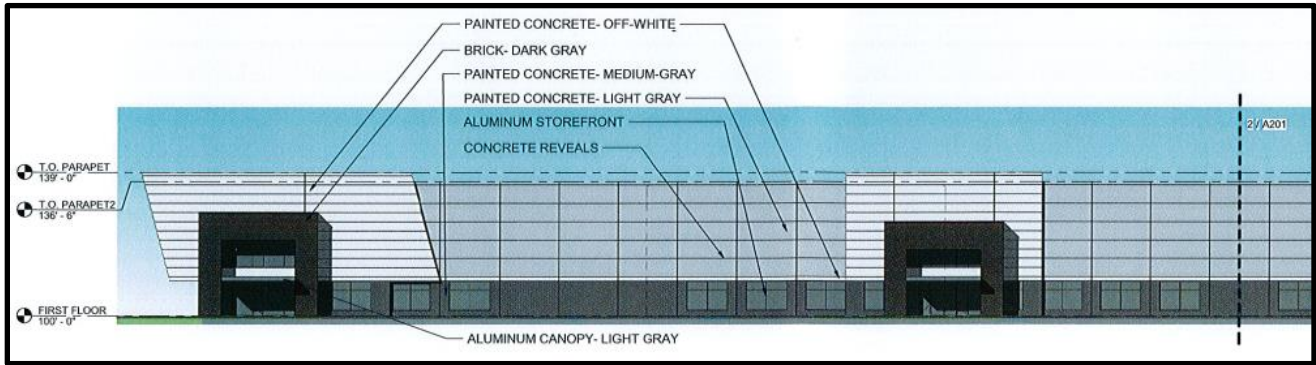

Figure 3: North Elevation facing I-64 – East Side
The structure will be 31'-7" feet in height (top of gutter), with accent features reaching 39 feet in some areas along the north elevation and lesser parapets elsewhere reaching 36'-6" feet in height. The structure will contain office space, a showroom for retail purposes and a warehouse with Figures 3 and 4 below detail the north elevation of the proposed structure. Accent features along the north elevation accentuate the solid shape and color scheme of the long façade. The south elevation is characterized by its contiguous flat surfaces and mitigated by six (6) loading docks and employee entrances on the back of the building.